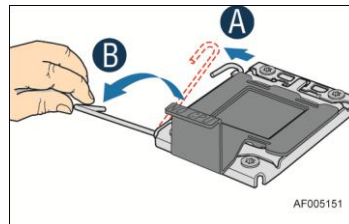

Figure 30. Installing Processor – Open the Socket Lever
1. Remove the processor heatsink, see Figure 30.